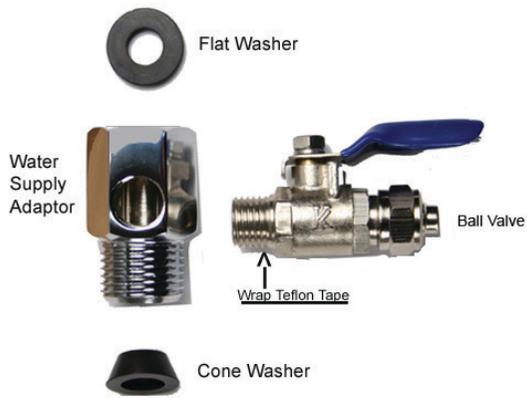

Fig. 2
- Ball Valve:** See **Fig. 2** Screw the Ball Valve onto the Adaptor tightly. Apply **5-6** rounds of Teflon tape onto Ball Valve before attaching it to the Adaptor. (Note: The "cone washer" is not needed if your water line already has a built in washer).